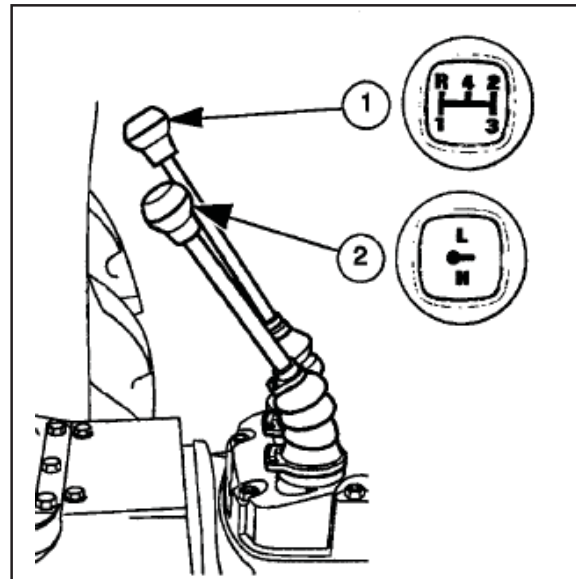

Fig. 48
The dual range selector lever, (2, Fig. 48) provides the working and transport ranges for the tractor as follows:
The main gear lever (1, Fig. 48) provides the operating gears within the range selected. The range lever on the right (2) selects the range, forwards for LOW (L) and backwards for HIGH (H) range.